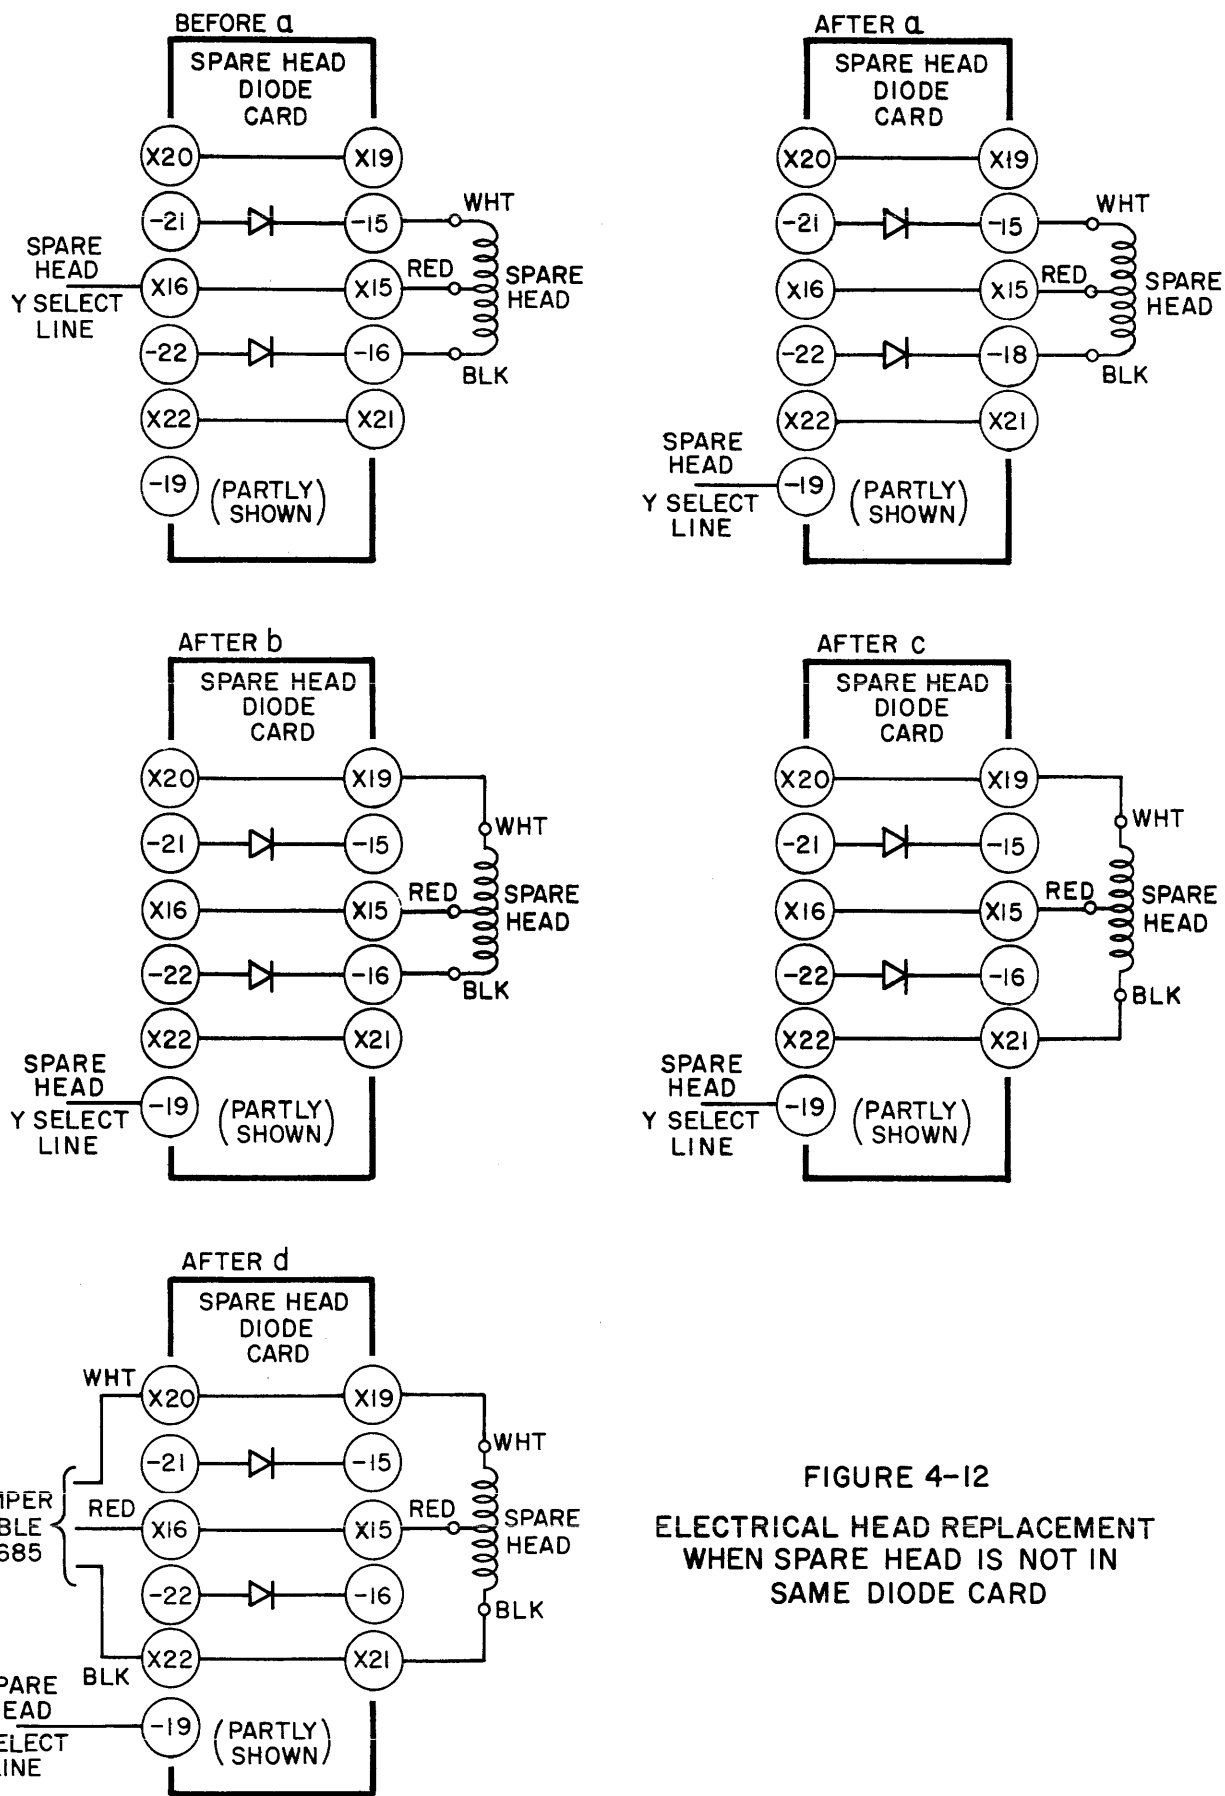

FIGURE 4-12
4.4.8 Connecting Spare Head With Different X-Selection Number Than Failed Head Refer to Figure 4-12